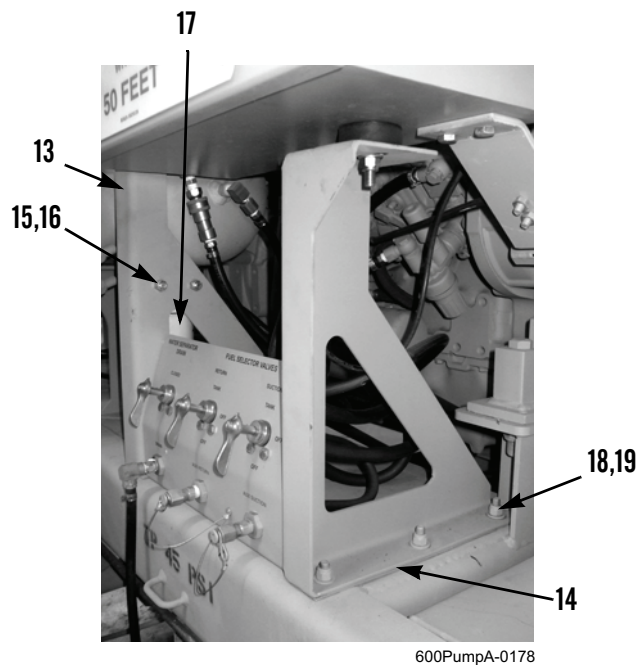

Figure 5. Fuel Filter/Water Separator and Support Brackets.
8. If necessary, remove two bolts (Figure 5, Item 15), locknuts (Figure 5, Item 16), and fuel filter/water separator (Figure 5, Item 17) from rear support bracket (Figure 5, Item 13). Discard locknuts.
9. If necessary, remove three locknuts (Figure 5, Item 18), washers (Figure 5, Item 19), and front support bracket (Figure 5, Item 14) from trailer. Discard locknuts.
10. If necessary, remove three locknuts (Figure 5, Item 18), washers (Figure 5, Item 19), and rear support bracket (Figure 5, Item 13) from trailer. Discard locknuts.
1. If removed, install front support bracket (Figure 5, Item 14), three washers (Figure 5, Item 19), and new locknuts (Figure 5, Item 18) on trailer.
2. If removed, install rear support bracket (Figure 5, Item 13), three washers (Figure 5, Item 19), and new locknuts (Figure 5, Item 18) on trailer.
3. If removed, install fuel filter/water separator (Figure 5, Item 17), two bolts (Figure 5, Item 15), and new locknuts (Figure 5, Item 16) to rear support bracket (Figure 5, Item 13).